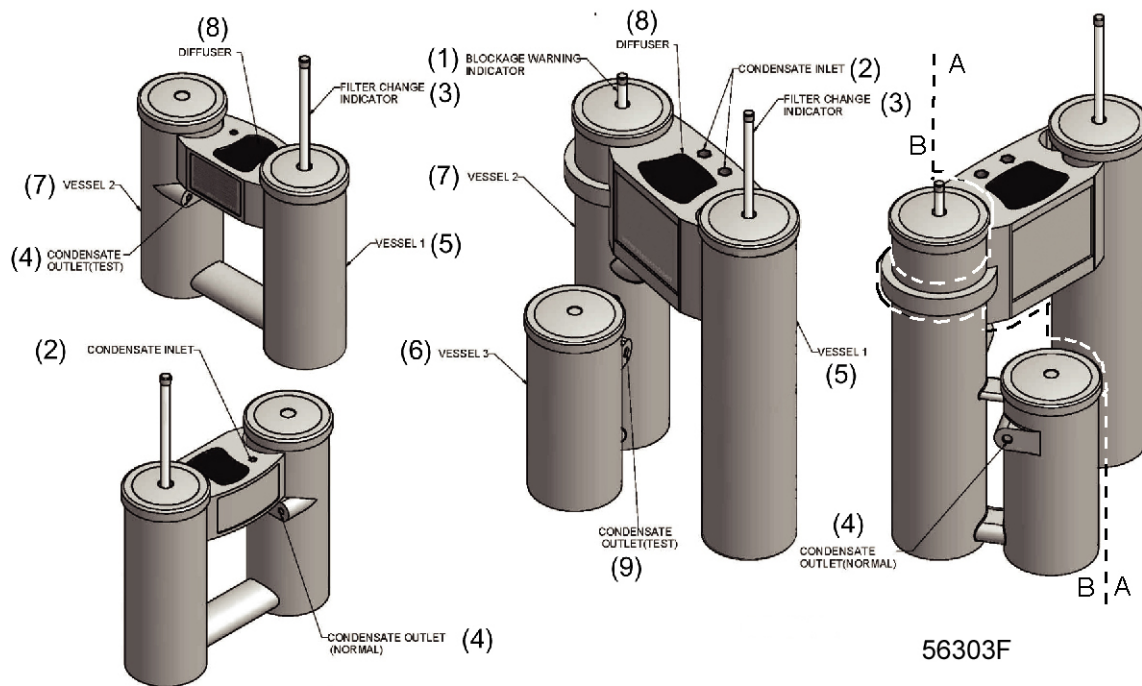

Fig. 1.5 CPP 40-615
- 1 **On CPP 360 up to -615** if the three towers stand in one line (Fig. 1.3), rotate the third tower forward (Fig. 1.5).
- 4 Connect the automatic drain of the compressor condensate trap to the condensate inlet (2-Fig. 1.5/1.6) of the CPP 40-2430 (see table, section 3.2). The connection can be made using one or both condensate inlets. The piping diameter must be at least 6 mm. The flexible must be laid out in such a way that no pockets are formed where condensate can collect. The feed line must never be laid out at floor level.